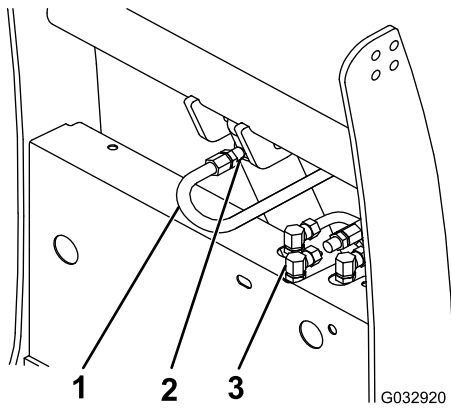

Figure 9
- Remove the plug on the upper fitting on the lift cylinder (Figure 9).
8. Using thread compound, install one end of the 39 cm (15-1/2 inch) hose to the upper fitting on the lift cylinder (Figure 9). Turn the fitting until it is finger tight, then turn it 2 to 3 more times.
9. Creating an “S” shape with the hose, connect the free end of the hose to the rear fitting on the hydraulic manifold (Figure 9). Turn the fitting until it is finger tight, then turn it 2 to 3 more times.